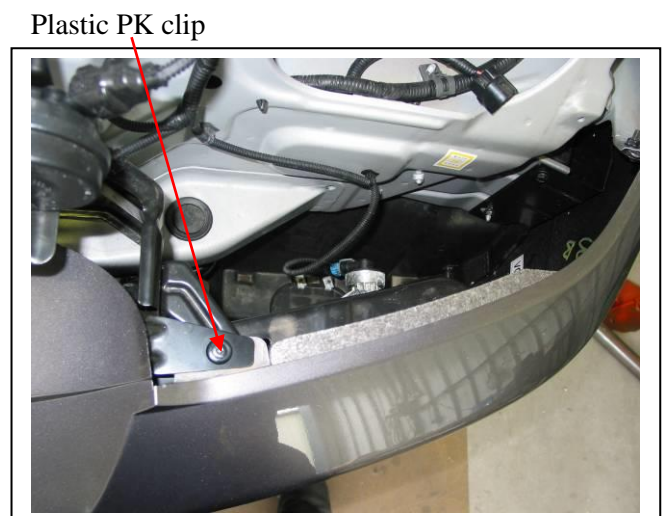

Figure 2 – Passenger side shown
4. Remove four bolts securing each headlight, remove headlight, locate one plastic clip under each headlight and remove. **See figure 2.**